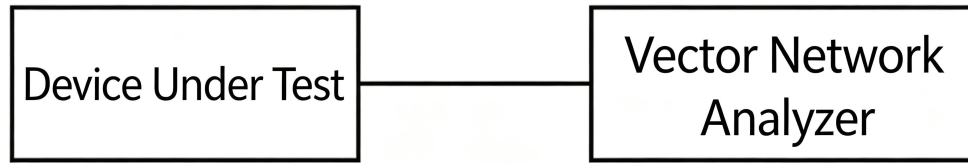

Figure 5 Block diagram of the test setup for electrical return loss (S11)
- a) Connect the test system as shown in Figure 5.